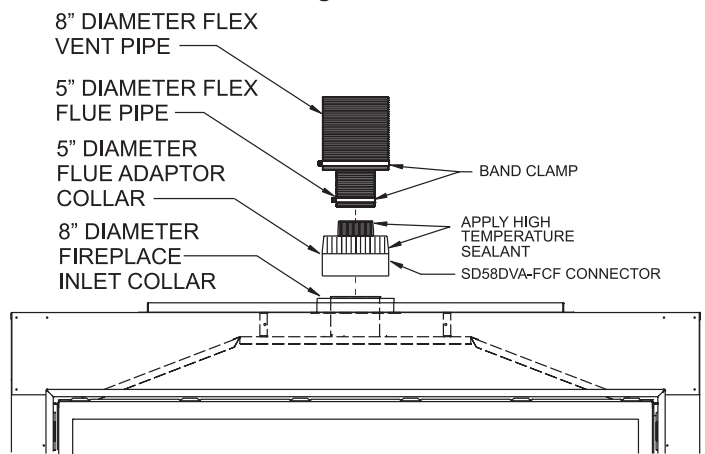

Figure 59b
NOTE: For installation of Flex Venting on Fireplaces that have Flue and Inlet Vent collars flush with top of the fireplace, it is recommended that an SD58DVA-FCF Connector be used. When using the SD58DVA-FCF Flex Vent Connector, it will require removing (or cutting off) the 5" diameter adapter from the DVVK5F Flex Flue. See Step 10b and Figure 59b.
NOTE: For installation of Flex Venting on Fireplaces that have Flue and Inlet Vent collars flush with top of the fireplace, it is recommended that an SD58DVA-FCF Connector be used. When using the SD58DVA-FCF Flex Vent Connector, it will require removing (or cutting off) the 5" diameter adapter from the DVVK5F Flex Flue. **See Step 10b and Figure 59b.**
- If using the SD58DVA-FCF Vent Connector, apply sealant to the inside of the 5" diameter flex flue pipe, then connect the flex flue to the 5" flue takeoff on the SD58DVA-FCF Connector. Use a 5" diameter band clamp and a minimum of two screws to secure the flex flue to the SD58DVA-FCF Connector. **See Figure 59b.**